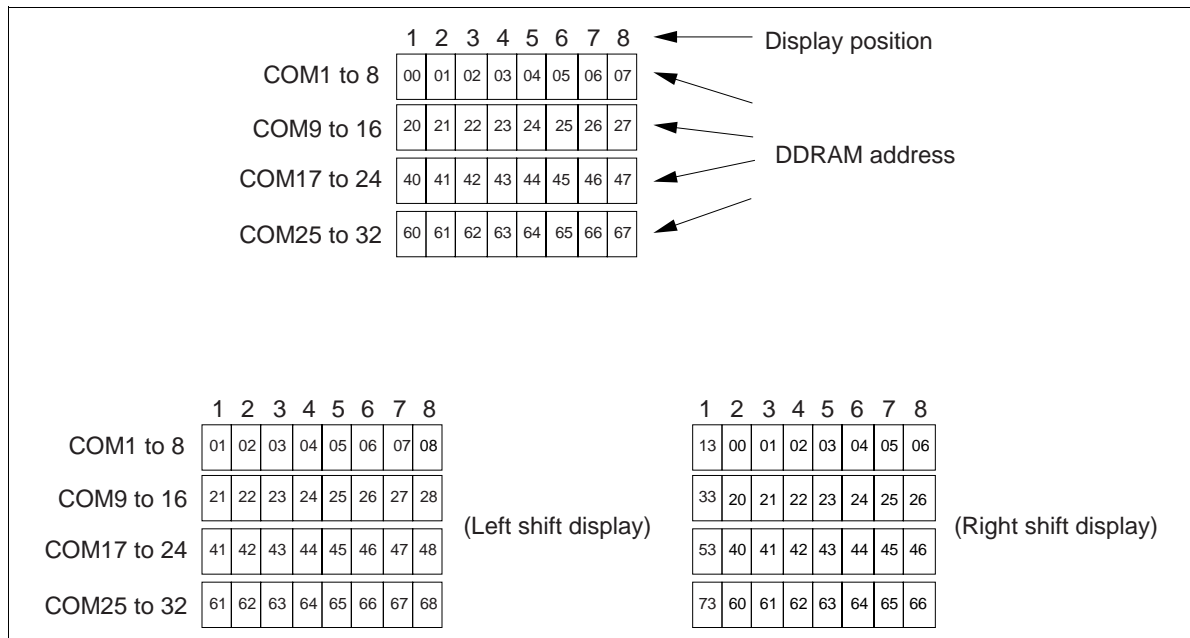

Figure 6 4-Line Display
- Case 1: The first line is displayed from COM1 to COM8, the second line is displayed from COM9 to COM16, the third line is displayed from COM17 to COM24, and the fourth line is displayed from COM25 to COM32. Care is required because the DDRAM addresses of each line are not consecutive. For example, the case is shown in Figure 6 where 8×4 -line display is performed using the HD66710.
When a display shift operation is performed, the DDRAM address shifts. See Figure 6.